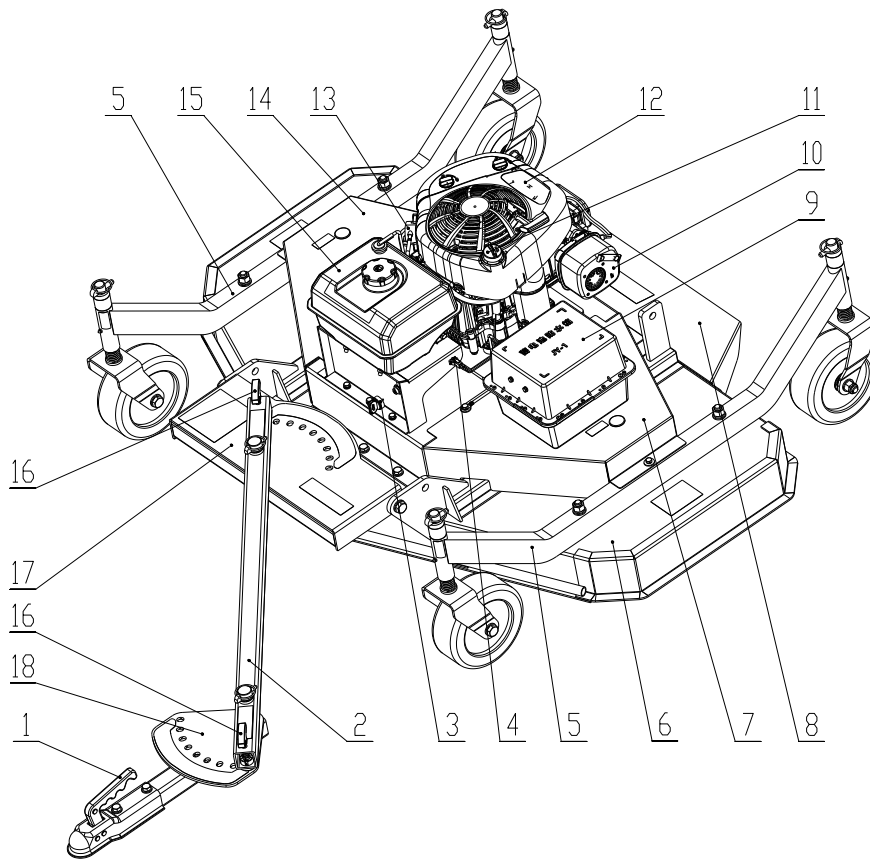

Figure 2: ATV Finishing Mower Features
Read this owner's manual and safety rules before operating your mower. Take time to compare the following illustration with the mower to familiarize yourself with the product and its controls. See Figure 2
1. Make sure the starting wire harness plug is plugged in. See Figure 2